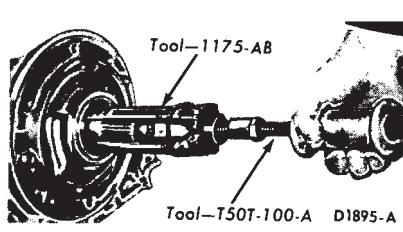
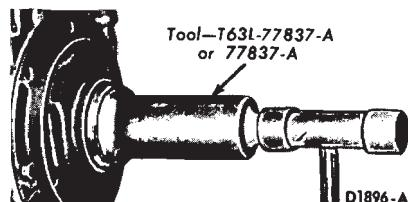

FIG. 72—Removing Front Pump Seal
FIG. 73—Installing Front Pump Seal
7. If the front pump seal must be replaced, mount the pump in the transmission case and remove the seal with the tool shown in Fig. 72. To install the new seal, use the tool shown in Fig. 73.